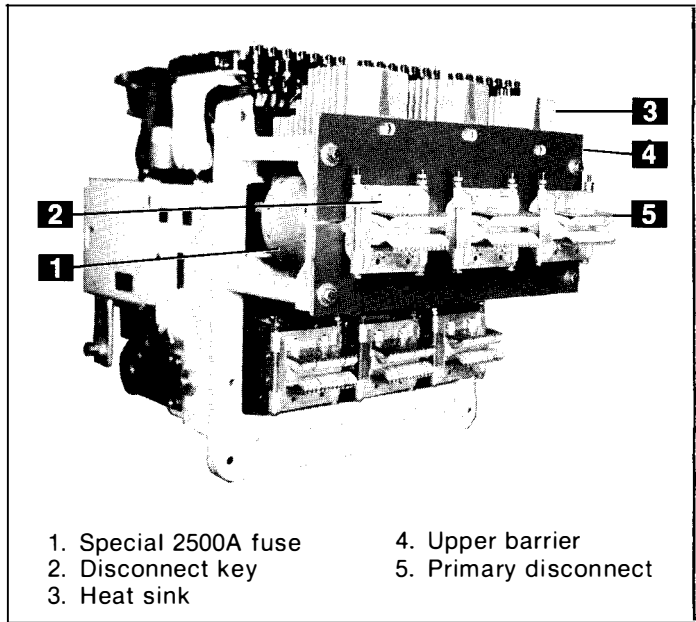
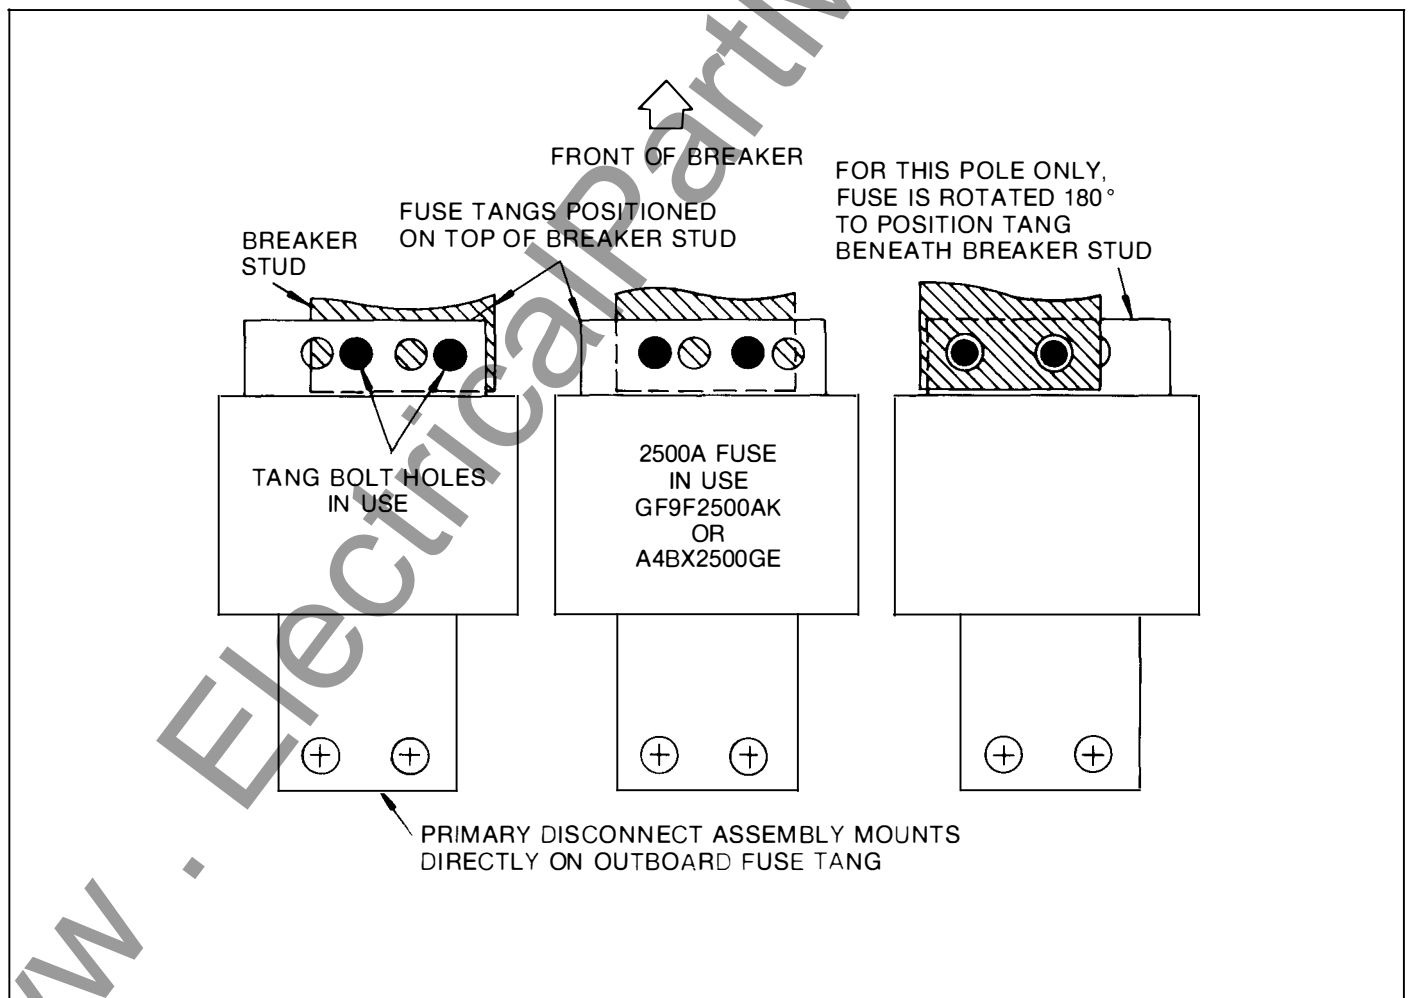
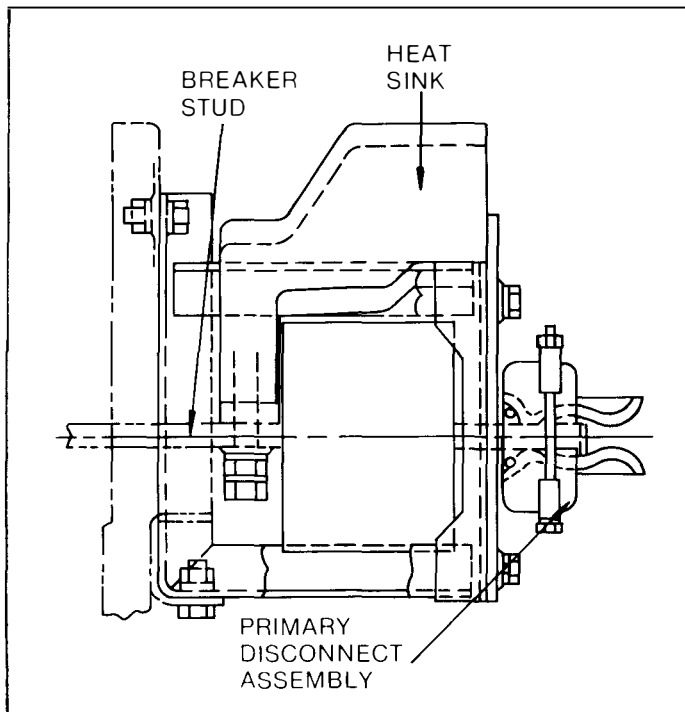

Fig. 5-15. AKRU-50 breaker with special 2500-ampere fuse
Fig. 5-16. Plan view of AKRU-50 breaker showing 2500-ampere fuse tang positions
Fig. 5-17. Mounting for special 2500-ampere fuse on AKRU-50 breaker
A special fuse is available for use with AKRU-50 breakers. This fuse provides a melting time-current characteristic that coordinates with 1600A trip devices. Compared physically with a 2500A, NEMA Class L fuse, the special fuse is more compact (shorter) and its tangs are specially configured and offset to achieve the required pole-to-pole fuse spacing. A special primary disconnect assembly mounts directly on the outboard tang of the fuse. Because of their unique mounting provisions, the following procedure should be adhered to when replacing these fuses (Fig. 5-15):
1. Remove the primary disconnect assembly from the fuse tang. This is accomplished by first loosening the two keys (2), Fig. 5-15, via their holding screw and pulling them upward and out. After the keys are removed, pull the disconnect assembly off the end of the fuse tang.
2. Remove the upper barrier (4).
4. Remove the heat sink (3).
**CAUTION:** WHEN REPLACING THE FUSE IN THE RIGHT POLE (PLAN VIEW) OF THE BREAKER, NOTE PARTICULARLY THAT THIS FUSE IS MOUNTED DIFFERENTLY FROM THE OTHER TWO FUSES. AS SHOWN IN FIG. 5-16, FOR THIS PHASE THE FUSE IS ROTATED 180 DEGREES ABOUT ITS AXIS SO THAT ITS INBOARD TANG IS POSITIONED *BENEATH* THE BREAKER STUD. THIS TANG IS OFFSET WITH RESPECT TO THE OPPOSITE END, (FIG. 5-17), SO THAT ROTATING THE FUSE DOES NOT ALTER THE POSITION OF THE PRIMARY DISCONNECT.